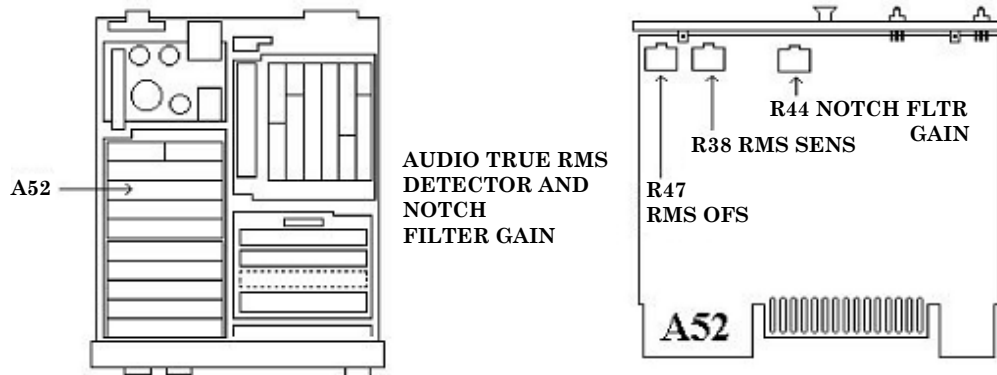

Figure 15. A52 board.
- (5) Adjust A52R47 RMS OFS (fig. 15) for a TI indication of between -0.0005 and 0.0005 . (R)
- (6) Press TI keys as listed in (a) and (b) below:
- (7) Using a tee connector, connect audio analyzer **OUTPUT HI** to **TI MODULATION OUTPUT /AUDIO INPUT** and digital multimeter **INPUT**.
- (8) Set digital multimeter to read ac volts.
- (9) Set audio analyzer for an output frequency of 2 kHz at a level of 3.9 V.
- (10) Adjust A52R38 RMS SENS (fig.15) for a TI display equal to the indication of the digital multimeter to the third decimal place. (R)
- (11) Change audio analyzer output level to 100 mV.
- (12) Press TI keys as listed in (a) and (b) below:
- (13) Adjust A52R44 NOTCH FLTR GAIN (fig. 15) for a TI display between 99.9 and 100.1%. (R)
- (14) Change audio analyzer output frequency to 800 Hz.
- (15) Press TI keys as listed in (a) and (b) below:
- (16) TI indication should be greater than 98 percent.
- (17) Reduce all outputs to minimum and disconnect equipment setup.